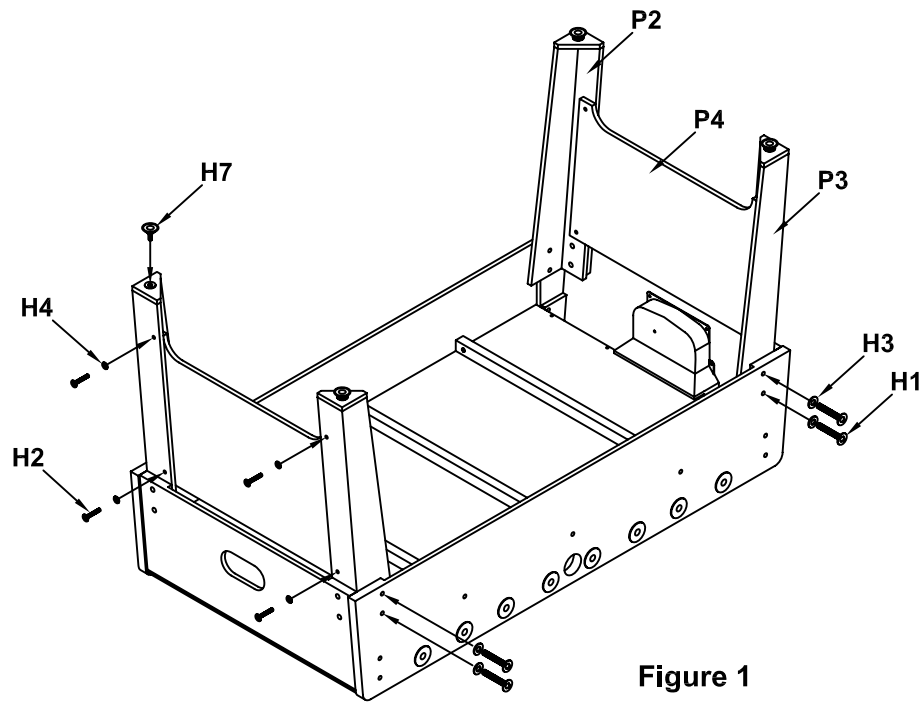

Figure 1
1. Attach the legs **P2** & **P3** with bolts **H1** and washers **H3**. Attach the leg panels **P4** with bolts **H2** and washers **H4**. Attach the leg levelers **H7** as shown in **Figure 1**.